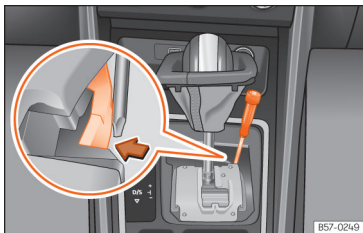

Fig. 103 Selector lever: manual release from position P.
- Using the flat part of a screwdriver, press the yellow tab sideways and keep it pressed down >>> Fig. 103.